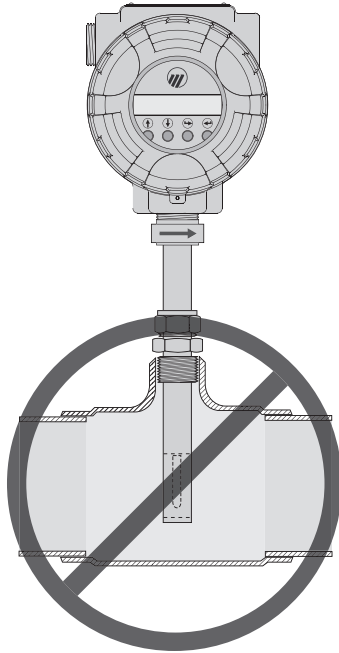

Figure 5
NOTE: The TA2 flow measurement is based on a fully developed turbulent flow profile in a pipe with the specified inner diameter. Accuracy will be affected if these conditions are not obtained. Installing the probe in a tee is not recommended as the flow profile and the flow area are distorted (See figure 5).
2. Unscrew and remove housing cover of wiring compartment. Refer to Figure 5.